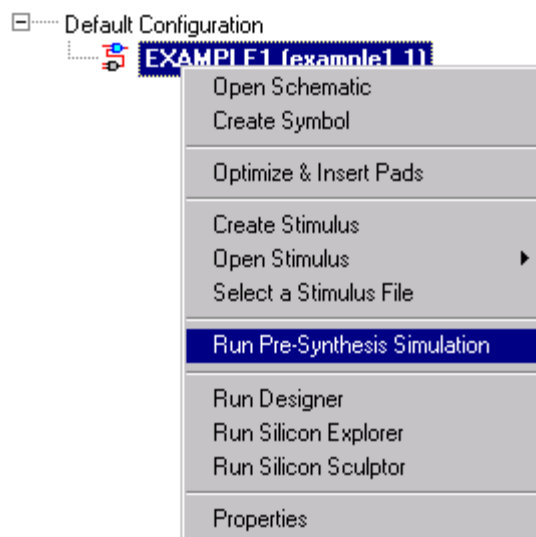

Figure 15 - Invoking the ModelSim for Actel Simulator for example1
1. Invoke the ModelSim for Actel simulator by double clicking the **ModelSim for Actel Simulation** button in the Libero IDE Process window or by selecting example1 in the Libero IDE Design Hierarchy tab then right clicking and selecting *Run Pre-Synthesis Simulation* (Figure 15). Note: if you ran *Optimize and Insert Pads* to insert IO's into your design, then you will choose *Run Post-Synthesis Simulation* from the list of options.